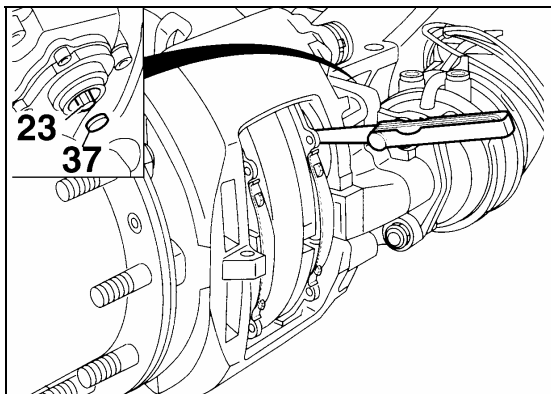

FIGURE 36: RUNNING CLEARANCE
- Insert a feeler gauge 0.028 inch (0.7 mm thickness) between tappet and pad back-plate (Fig. 36). Turn adjuster pinion clockwise until 0.028 inch (0.7 mm) clearance is achieved. Replace cap (37) (Prévoist # 641313).
- To ensure a constant running clearance between the rotor and pads, the brake is equipped with an automatic adjuster unit. When the pads and rotor wear, the running clearance between the pads and rotor increases. The adjuster (23, Fig. 36) and turning device turn the threaded tubes by the amount necessary to compensate the wear.